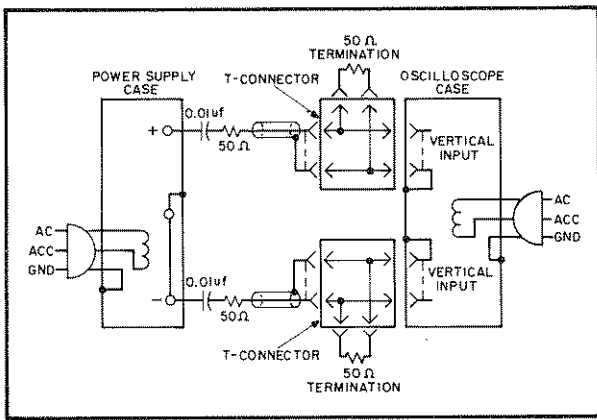

Figure 5-7. Noise Spike Test Setup
1. As shown in Figure 5-7, two coax
5-34 The circuit of Figure 5-7 can also be used for the normal measurement of low frequency ripple and noise; simply remove the four terminating resistors and the blocking capacitors and substitute a higher gain vertical plug-in in place of the wide-band plug-in required for spike measurements. Notice that with these changes, Figure 5-7 becomes a two-cable version of Figure 5-6C.